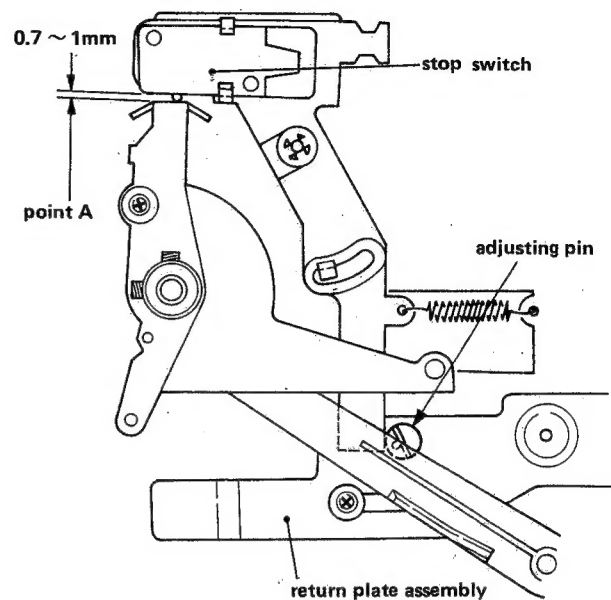

Fig. 4-13
2. Referring to Fig. 4-13, check that there is a clearance of 0.7 to 1 mm at point A. If not, turn the adjusting pin on the return plate assembly with a screwdriver until the proper clearance is obtained.